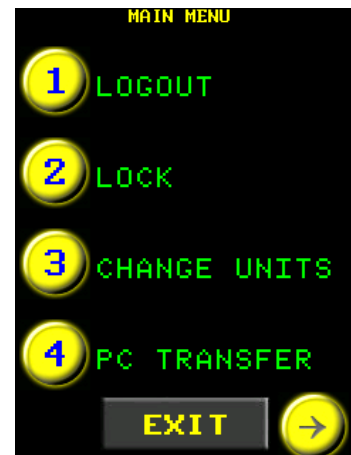

Figure 5.4-5: Main Menu with Logout Option
4. The Main Menu will appear and the "Logout" option will be displayed (Figure 5.4-5).
2. Select "Logout" from the Main Menu (Figure 5.4-5).